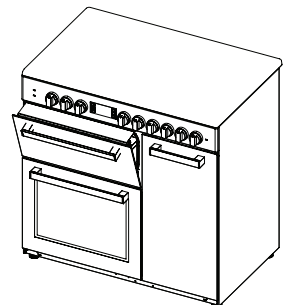

Figure 26
4. And then secure the safety panel in between oven and front cover by gently closing the cover. (figure 26)